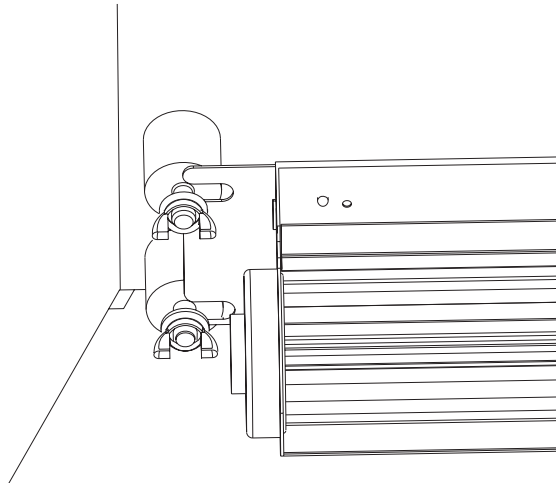

Figure 11
- Match up the 2 slots at the left end of the blower mount plate with the 2 previously installed blower mounts in Step 3. See Figure 11. Make sure the blower mount plate is sandwiched between the blower mounts and the rubber washers.